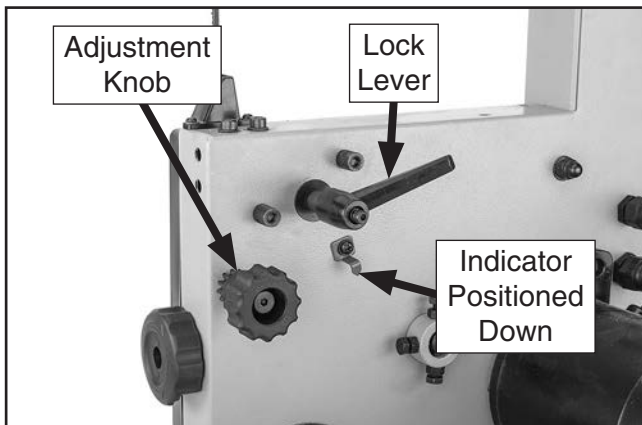

Figure 10. Location of table controls that must be removed or adjusted.
1. Remove table tilt lock lever and adjustment knob, then loosen indicator and position it down, out of the way (see **Figure 10**).